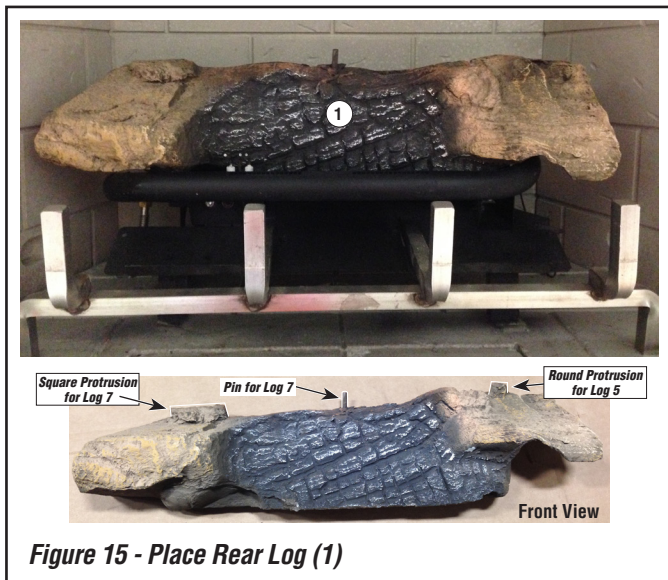

Figure 15 - Place Rear Log (1)
1. Place rear log (1) being pilot in-between the tube burner. (Figure 15)
7. Position top rear log (7) over the square protrusion and pin on the rear log (See **Figure 15 and G**).